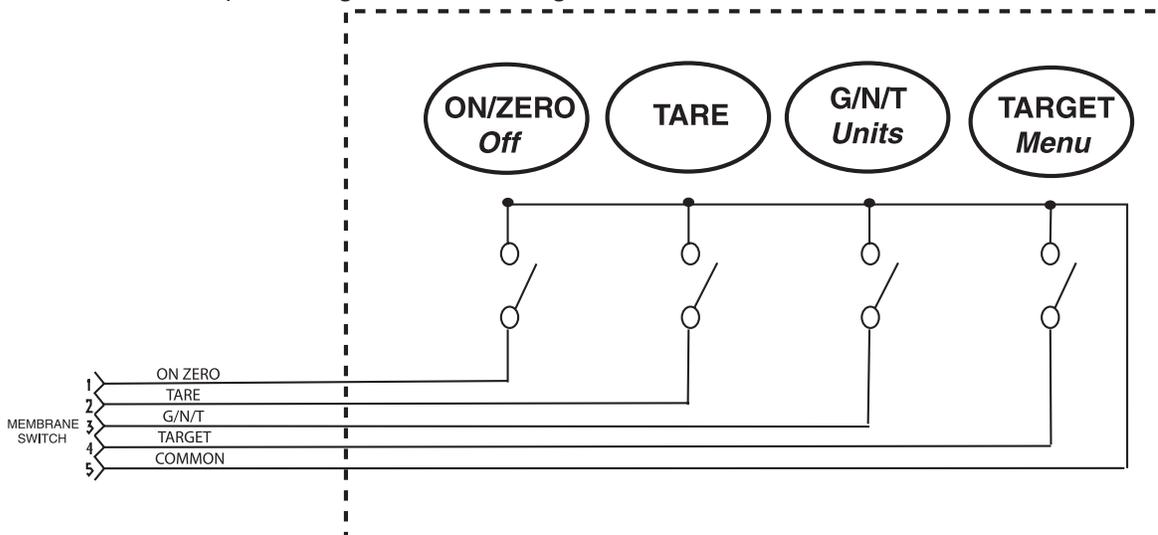

Figure 3-1. FD Series Scales Membrane Switch Wiring Diagram.
2. Refer to Figure 3-1. Using an Ohmmeter, measure the resistance between pin 5 to all other pins on the membrane switch cable, the readings should be infinite resistance. Then, press each button and check that the resistance is zero for each button. If continuity is not present, the membrane switch is defective. Replace the Membrane Switch.